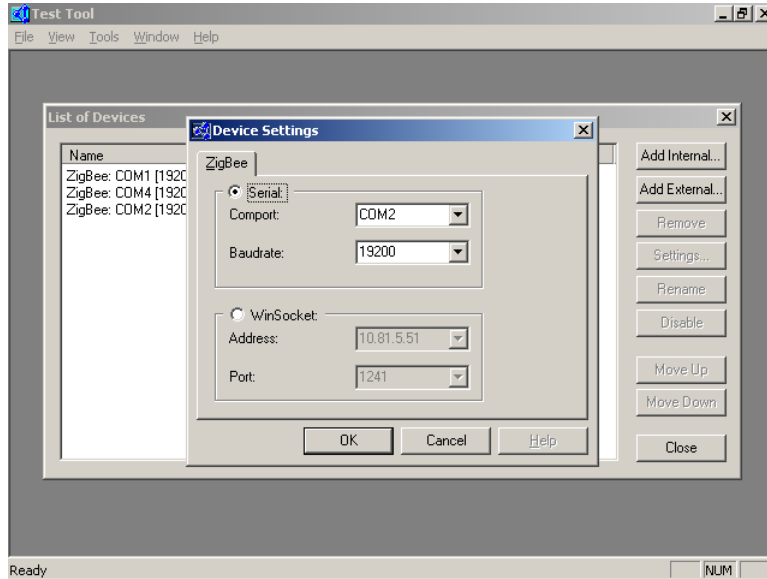

Figure 3-2. List of Devices and Device Settings Windows
6. The List of Devices screen appears as shown in Figure 3-2. Click on the Add Internal button and the Device Settings window appears as shown in Figure 3-2.